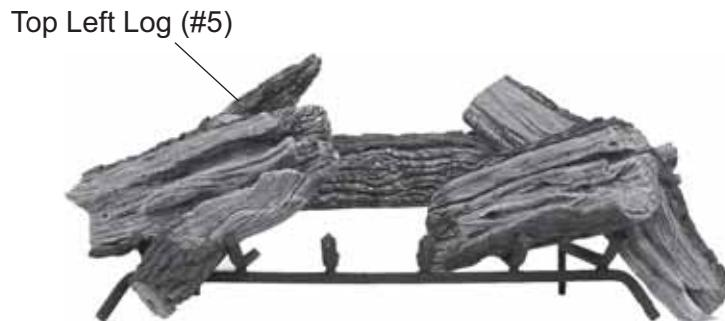

Figure 143 - Placing Top Left Log (#5) behind Rear Log
6. Place Top Left Log #5 behind Rear Log #1 on the notch on rear left of grate stand. *See Figure 143.*